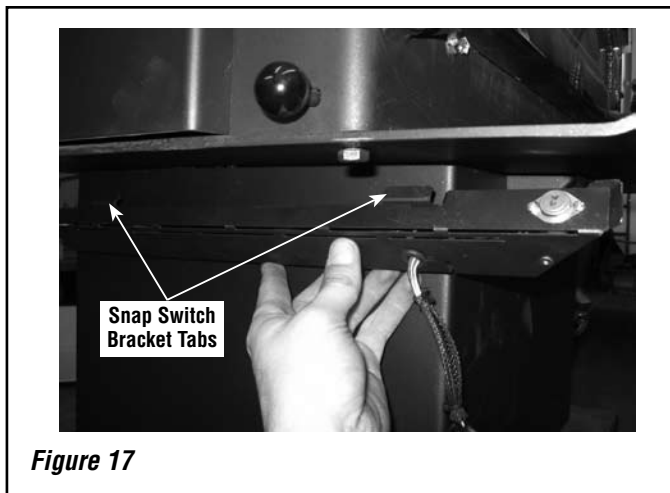

Figure 17
Step 3. Insert snap switch bracket mounting tabs between the pedestal and the firebox bottom. See **Figure 17.**